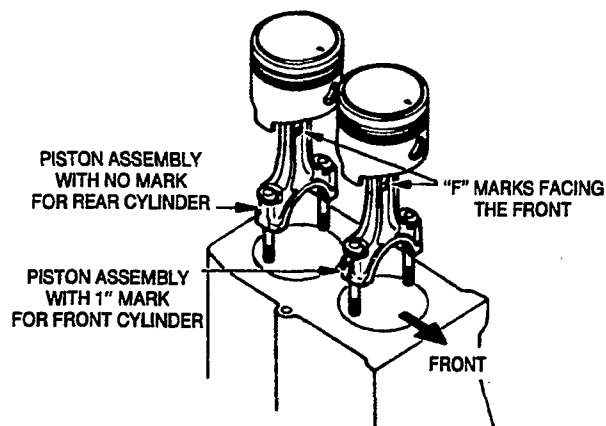

FIGURE 9-51. DIRECTION OF ROD INSTALLATION
5. Hold each piston/connecting rod assembly with the front mark "F" toward the front of the engine (Figure 9-51). Insert into cylinders from above the block (cylinder head side) as shown.